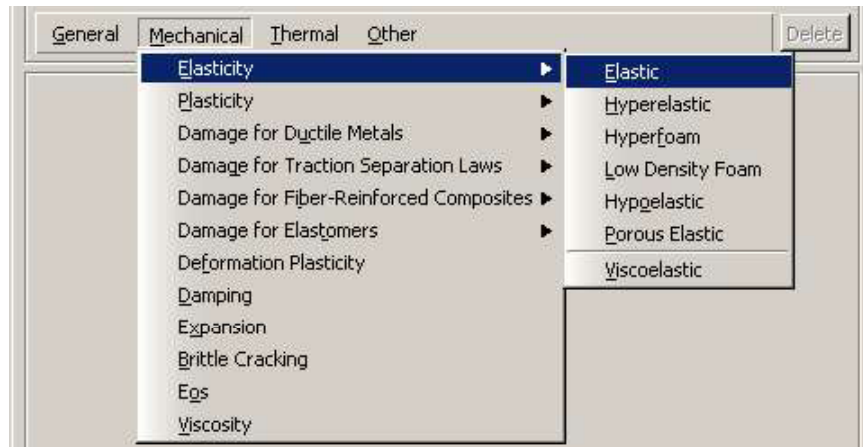

Figure B-7 Submenus available under the **Mechanical** menu.
2. Name the material **Steel**. Use the menu bar under the browser area of the material editor to reveal menus containing all the available material options. Some of the menu items contain submenus; for example, Figure B-7 shows the options available under the **Mechanical**→**Elasticity** menu item. When you select a material option, the appropriate data entry form appears below the menu.